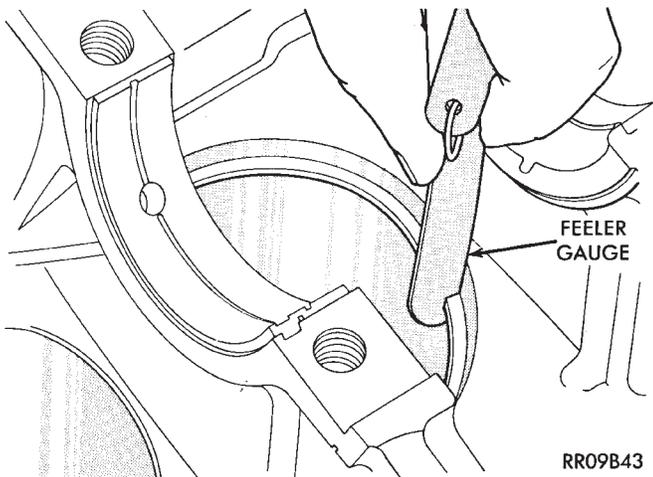

Fig. 9 Piston Ring Gap
(1) Wipe cylinder bore clean. Insert ring and push down with piston to ensure it is square in bore. The ring gap measurement must be made with the ring positioning at least 12mm (.50 inch) from bottom of cylinder bore. Check gap with feeler gauge (Fig. 9).